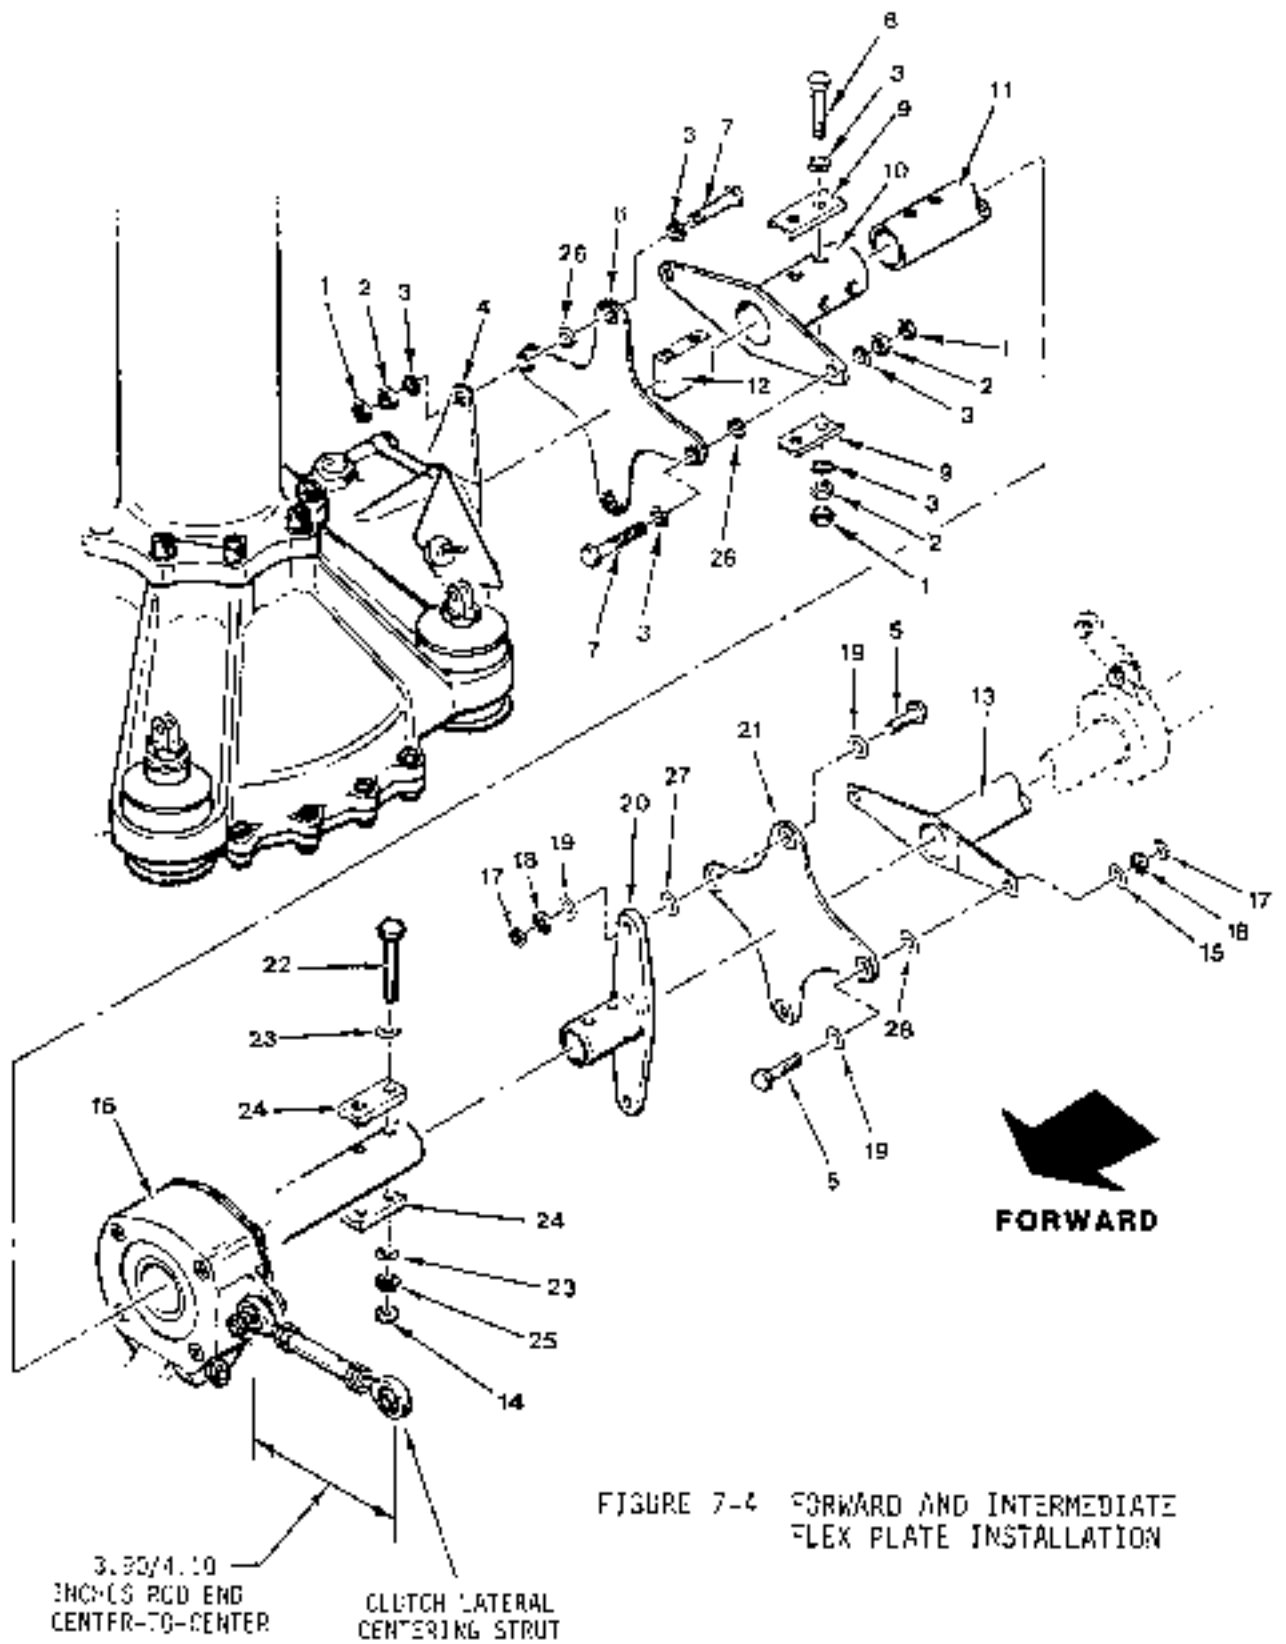

FIGURE 7-4 FORWARD AND INTERMEDIATE FLEX PLATE INSTALLATION
4. Clutch lateral centering strut (see Figure 7-4) may be adjusted within limits to improve centering measurement. Lengthen the strut to decrease the left gap and increase the right gap; shorten strut to increase left gap and decrease right gap. Strut limits are 4.10/3.90 inches rod end center-to-center. Check both rod end witness holes after any strut adjustment.